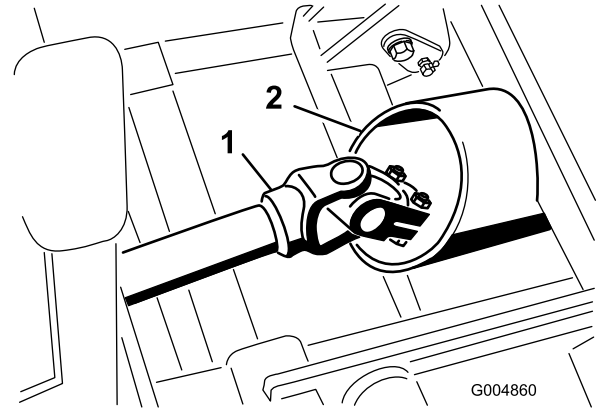

Figure 44
- Carefully roll the winter frame assembly into position while routing the drive shaft through the frame tube (Figure 44).